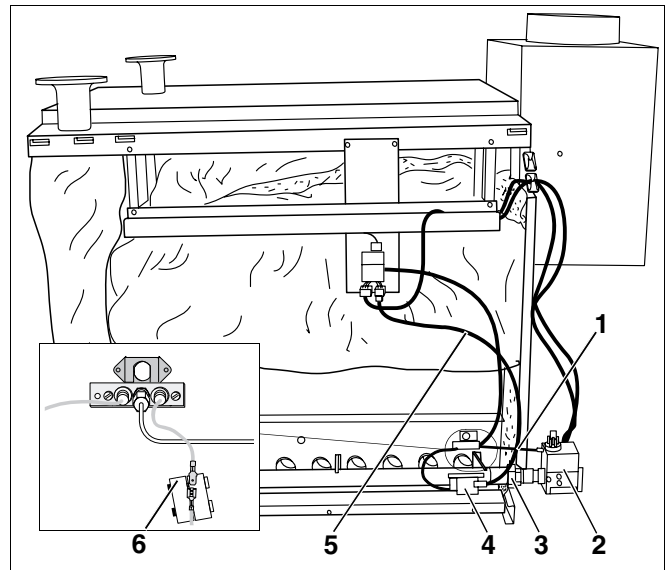

Fig. 16 Preparing the boiler for cleaning with brushes
- Release the connection cable (Fig. 16, **Item 5**) on the intermittent ignition (Fig. 16, **Item 4**).
- Remove the contact protector (Fig. 16, **Item 6**) from the monitoring lead and release the plug-in connector.
- Remove the pilot gas pipe (Fig. 16, **Item 1**) from the burner shield and the gas train (Fig. 16, **Item 2**).